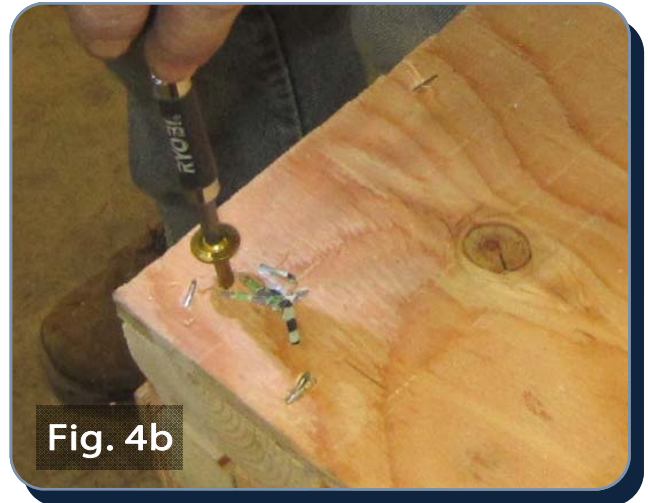

Fig. 4b
- Secure lid using 5/16" X 4" self-tapping lag screws (fig. 4b)